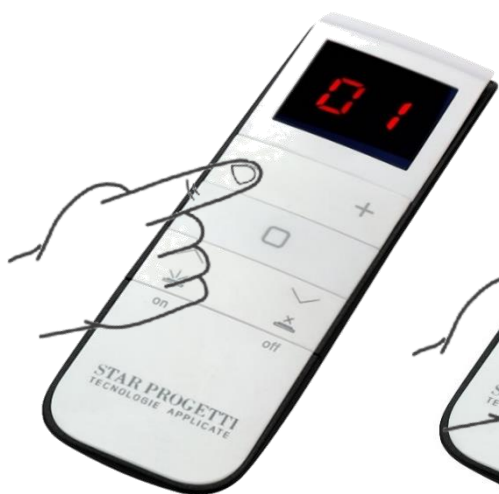

Fig.6
- Within 10 seconds use the "+" and "-" buttons to select the channel [1-12] selected for assignment. Example «channel 1» Fig.6